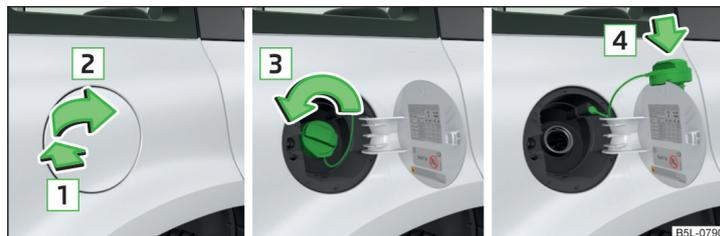

Fig. 157 Open fuel filler flap / unscrew tank cap / place the tank cap on the fuel filler flap
The correct fuel grades for your vehicle are specified on the inside of the fuel filler flap » Fig. 157 on page 177.
- Press on the fuel filler flap in the direction of the arrow **1** accordingly » Fig. 157.